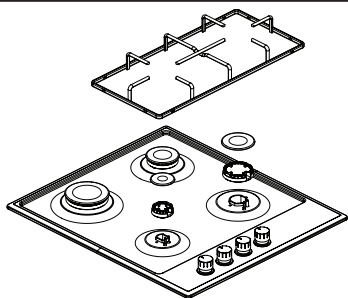

Figure 1
- 1.** Lift the grate, burner cover and burner of the product so that the injector is visible (see figure 1).